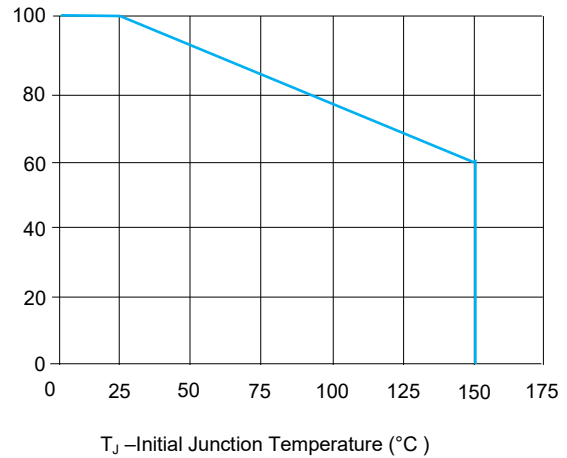

FIGURE 2 Peak Pulse Power Derating Curve
1. Non-repetitive current pulse, per Fig. 3 and derated above TJ(initial)=25 °C per Fig. 2.